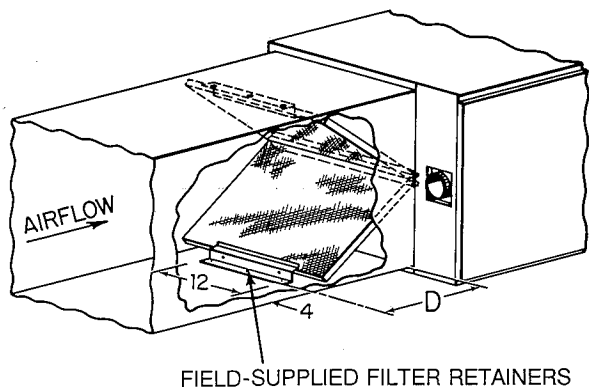
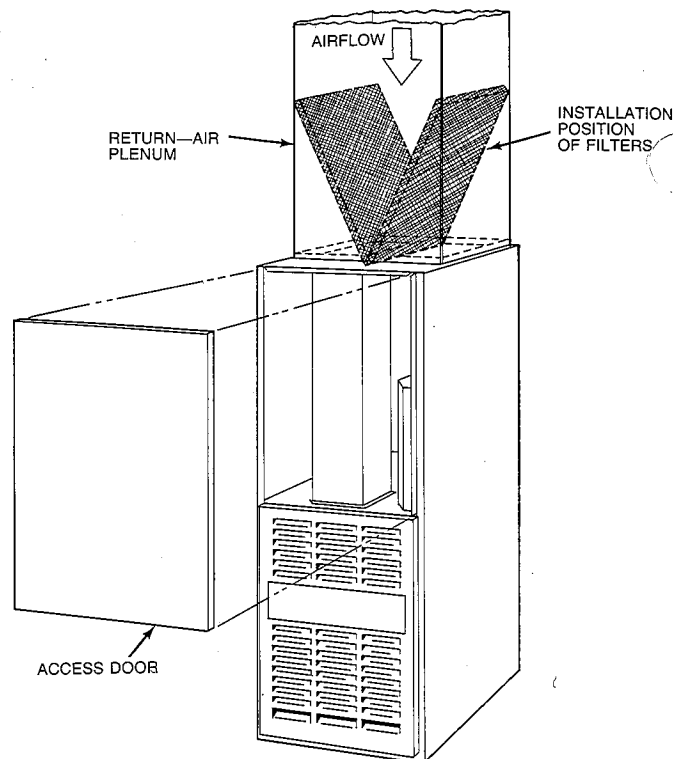

Fig. 8—Horizontal Filter Arrangement
Fig. 9—Position of Filters
- Install field-supplied filter retainers as indicated in Fig. 8 and Table 4 before connecting return-air duct to furnace.
The two factory-supplied filters are shipped in the blower compartment. After the return-air duct has been connected to the furnace, install the filters in a V-formation inside the return-air plenum. See Fig. 8 and Table 4 for horizontal applications. Horizontal filter retainers must be field-supplied. See Fig. 9 for downflow applications.